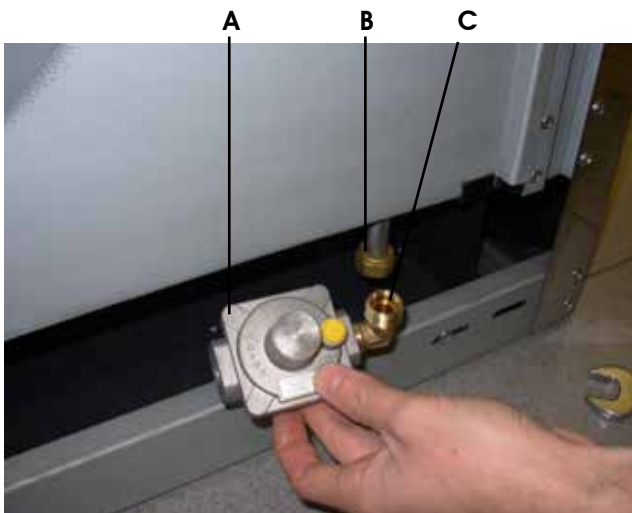

Fig. 2a
- As show in **Figure 2a**, unscrew B part from C part.
Screw C part into A part (**Fig. 2a**). Please use a proper gasket, for this connection.